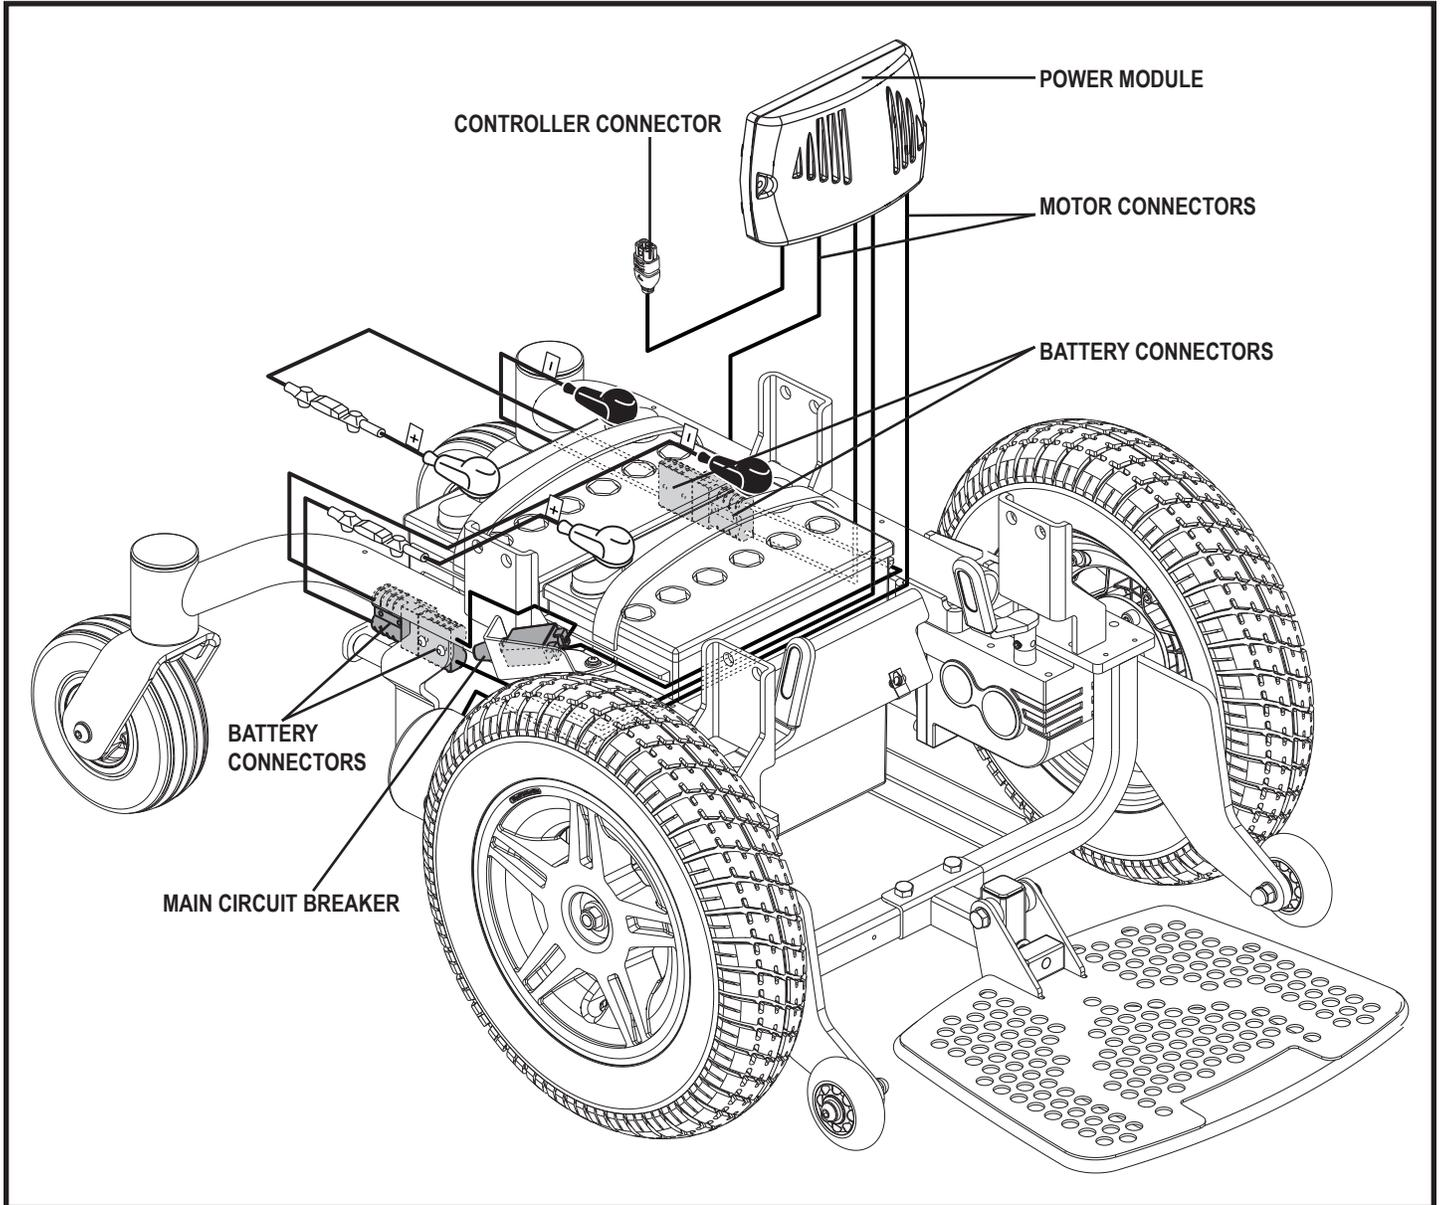

Figure 3. Jazzy Elite Series Electrical Components
The electrical components are located either on or inside the power base. The main circuit breaker is located on the right side of the power base. The power module is located under the front cover. **See figure 3.**
Main Circuit Breaker: The main circuit breaker is a safety feature built into your power chair. When the batteries and the motors are heavily strained (e.g., from excessive loads), the main circuit breaker trips to prevent damage to the motors and the electronics. If the circuit trips, allow your power chair to “rest” for approximately one minute. Next, push in the circuit breaker button, turn on the controller, and continue normal operation. If the main circuit breaker continues to trip repeatedly, contact your authorized Pride Provider. **See figure 3.**
5. Plug the controller connector into the front of the power base. **See figure 3.**
3. Unplug the controller connector(s) from the power base. **See figure 3.**